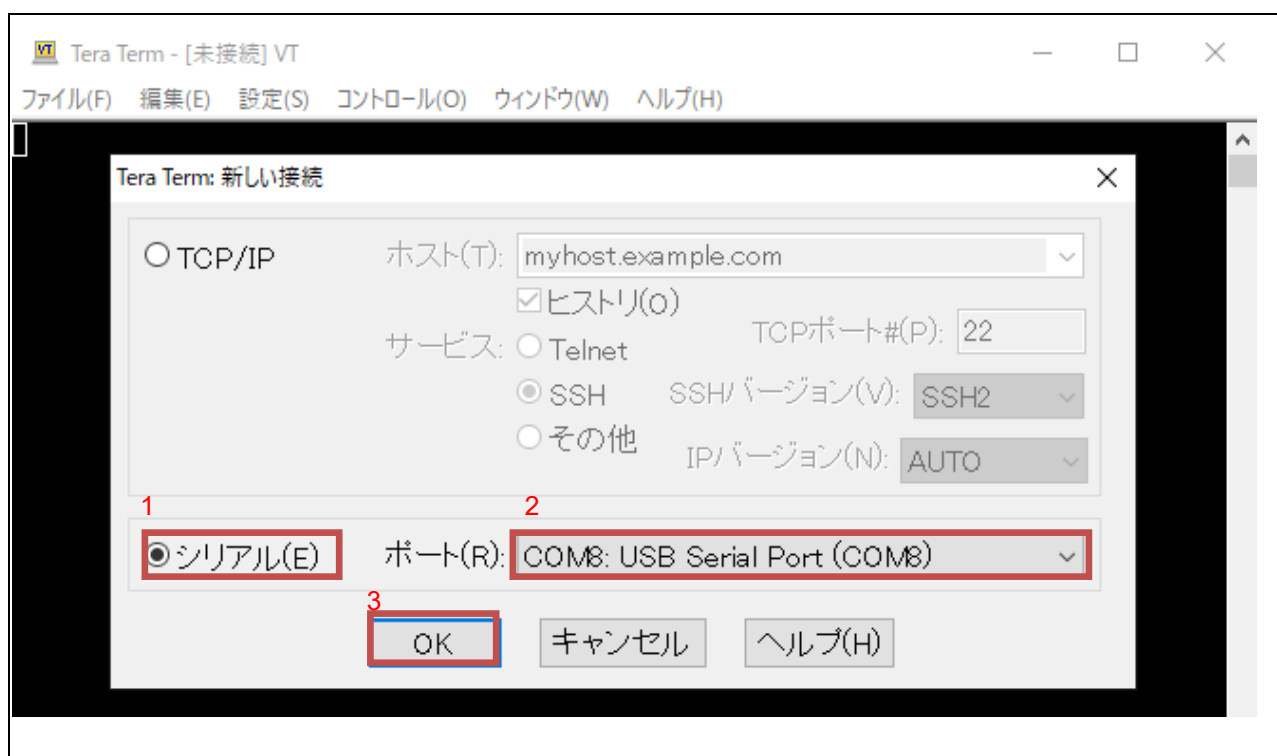

Figure 1-4 Starting TeraTerm and Port Configuration
Select '**Serial (E)**,' choose the appropriate "**Port (R)**" for your environment, and click '**OK**.' Figure 1-4 shows an example using COM8.